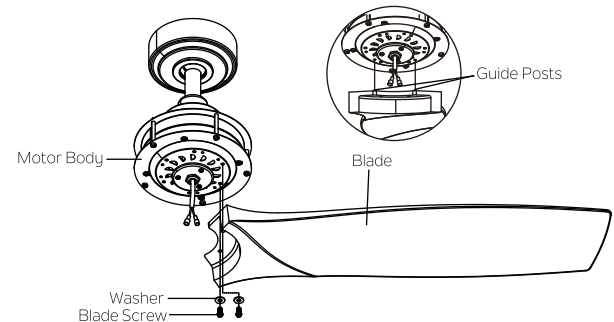

Fig. 17
Step 1. Lightly attach the blade to the motor body with washers and screws found in the blade attachment hardware pack. Then, securely tighten after two screws are attached.(Fig.17)
NOTE: Guide posts are present on the blade to help align the blade with the motor body.(Fig.17)